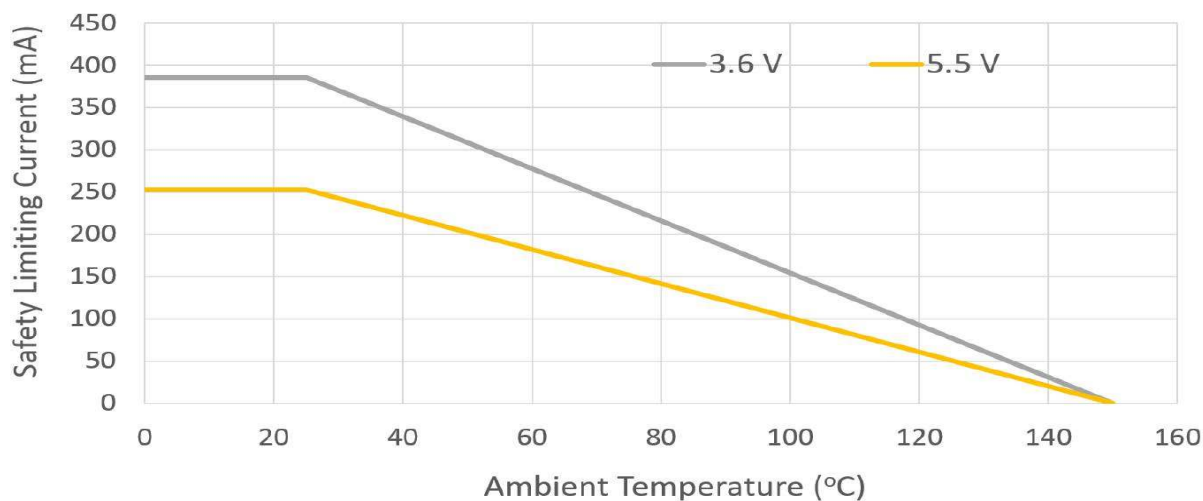
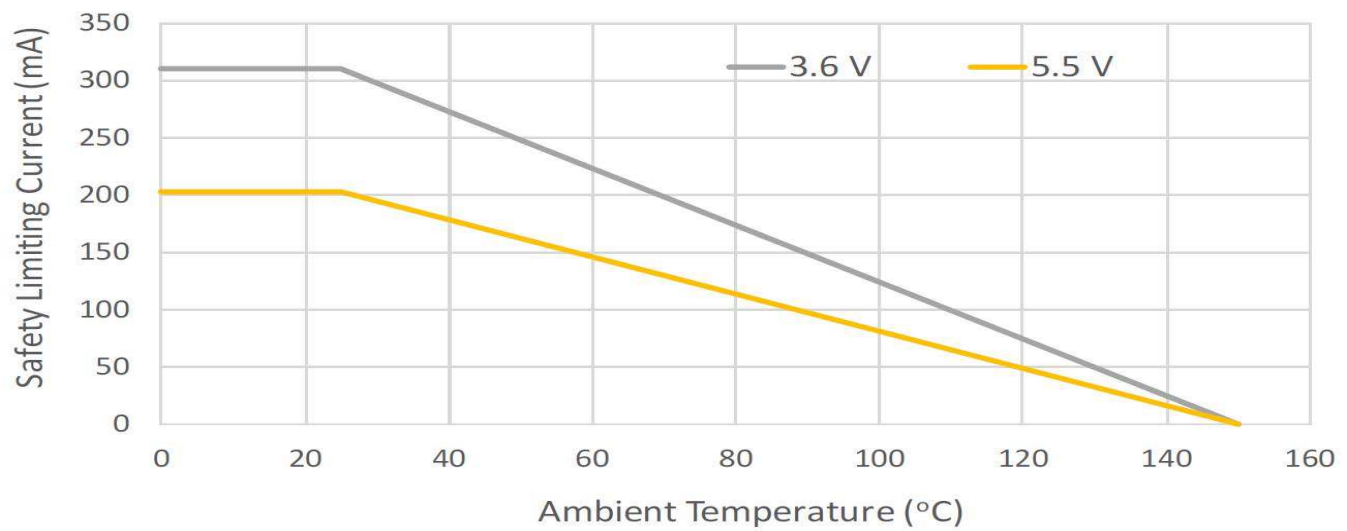

Figure 41. WB Stretched SOIC-8 Thermal Derating Curve (Dependence of Safety Limiting Current)
Figure 42. NB SOIC-8 Thermal Derating Curve (Dependence of Safety Limiting Current)
1. Maximum value allowed in the event of a failure. Refer to the derating curves Figure 41, "WB Stretched SOIC-8 Thermal Derating Curve (Dependence of Safety Limiting Current)," on page 19 and Figure 42, "NB SOIC-8 Thermal Derating Curve (Dependence of Safety Limiting Current)," on page 20.